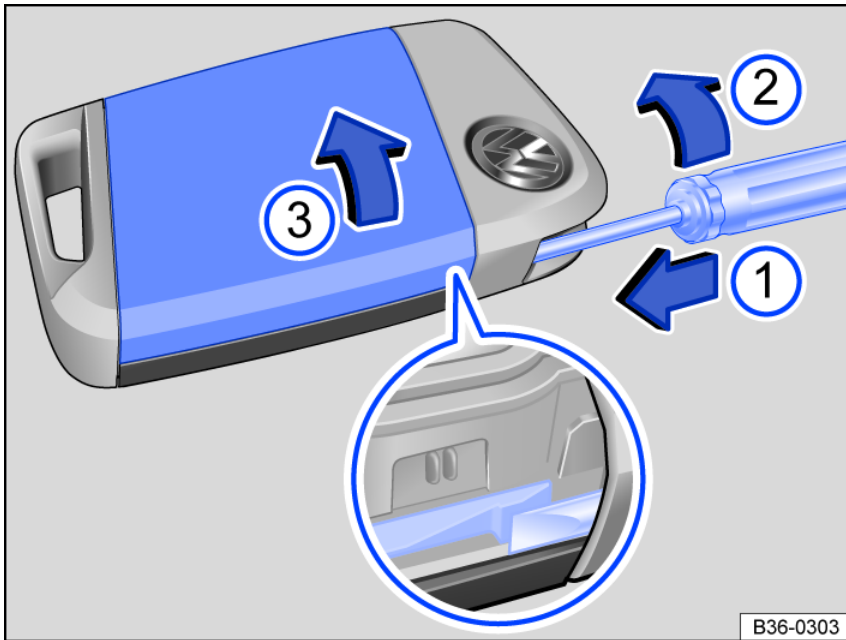

Fig. 52 Vehicle key: opening the battery compartment cover.
- Slide the blade of the flat-bladed screwdriver in the direction of the arrow approximately 1 cm into the outer guide on the mechanical key *fig. 52* ①.
- Turn the flat-bladed screwdriver clockwise until the cover pops up *fig. 52* ②.
- Push the cover in the direction of the arrow *fig. 52* ③ and remove it.
- Press the cover onto the housing *fig. 52* ③.